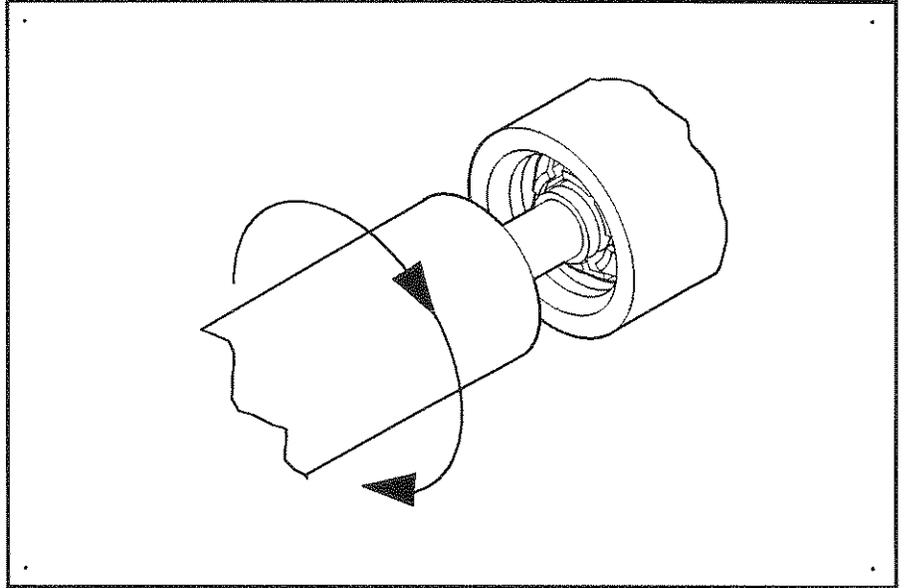

Figure A-13.
- b. Turn the tool clockwise to engage the tool coupling thread with the thread on the inside of the contact (see Figure A-13).